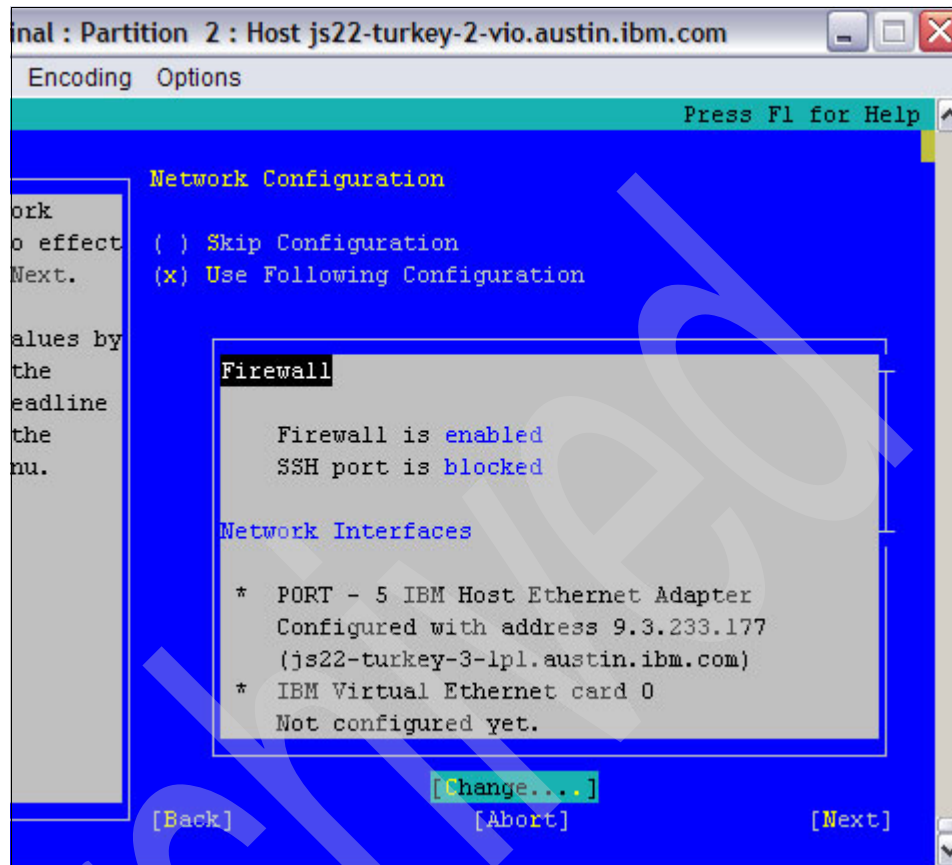

Figure 7-15 Change network configuration
11. Select () **Use Following Configuration** in the Network Configuration window (Figure 7-15 on page 321) and verify that the Firewall is marked as **enabled**. Press the Tab key to **[Change....]** to change the SSH port settings to open.